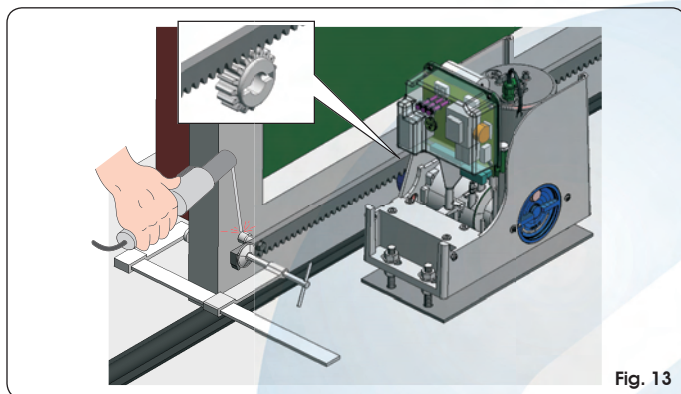
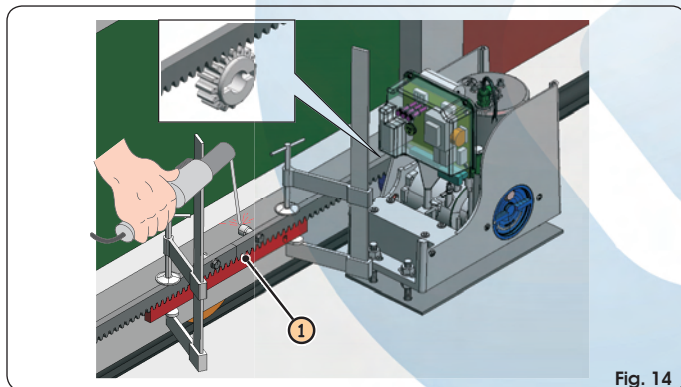

Fig. 13
Fig. 14
- ① Fit the three threaded pawls on the rack element, positioning them on the upper part of the slot. In this way the clearance on the slot will enable any adjustments long-term.
- ② Manually move the leaf to its opening position.
- ③ Lay the first piece of rack level on the pinion and weld the threaded pawl on the gate as shown in Fig.13.
- ④ Manually move the gate, checking if the rack is resting on the pinion and weld the second and third pawls.
- ⑤ Fit another rack element next to the previous one, using a piece of rack, as shown in Fig.14 ref. ①, to synchronise the teeth of the two elements.
- ⑥ Move the gate manually and weld the three threaded pawls. Carry on like this until you have fully covered the gate.
- ① Manually move the leaf to its opening position.
- ② Rest the first section of rack on the pinion, positioning the spacer between the rack and the edge of the gate. Using a spirit level, check if the rack is horizontal and mark the perforation point with a felt-tipped pen.
- ③ Drill with a 6.5 mm diameter bit, and thread with an M8 male element. Screw the bolt.
- ④ Manually move the gate, checking if the rack is resting on the pinion and repeat the operations in point ③.
- ⑤ Fit another rack element next to the previous one, using a piece of rack, as shown in Fig. 14 ref. ①, to synchronise the teeth of the two elements.
- ⑥ Move the gate by hand and perform the securing operations as for the first element, carrying on like this until you have covered the gate completely.